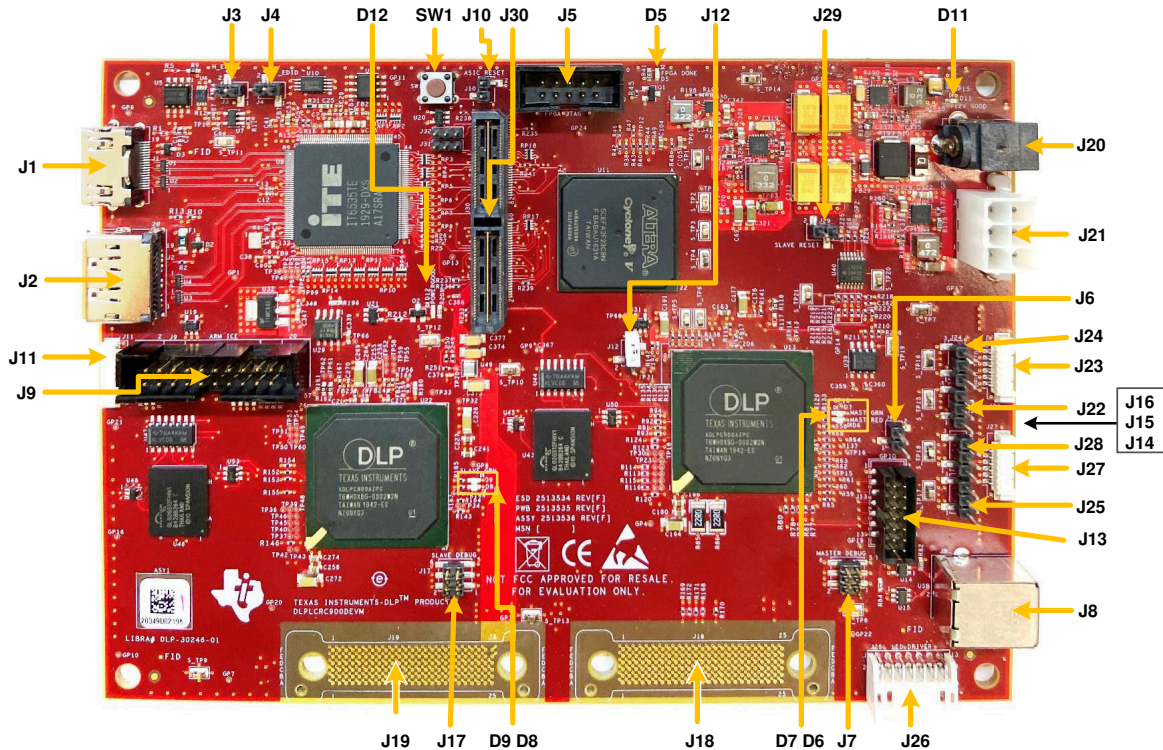

Figure 2-3. DLP LightCrafter Dual DLPC900 EVM Connectors (Top View)
Figure 2-3 depicts the switches and connectors with the respective locations.
1. Connect a 12V DC power supply to the power supply connector J20 in Figure 2-3.
5. Connect a USB cable from a PC to connector J8 on the DLP LightCrafter Dual DLPC900 EVM, as seen in Figure 2-3. The first time the cable is connected on a PC, the DLP LightCrafter Dual DLPC900 EVM enumerates as a USB composite device with human-interface device (HID) class. No drivers are required since these are natively handled by the Windows operating system.